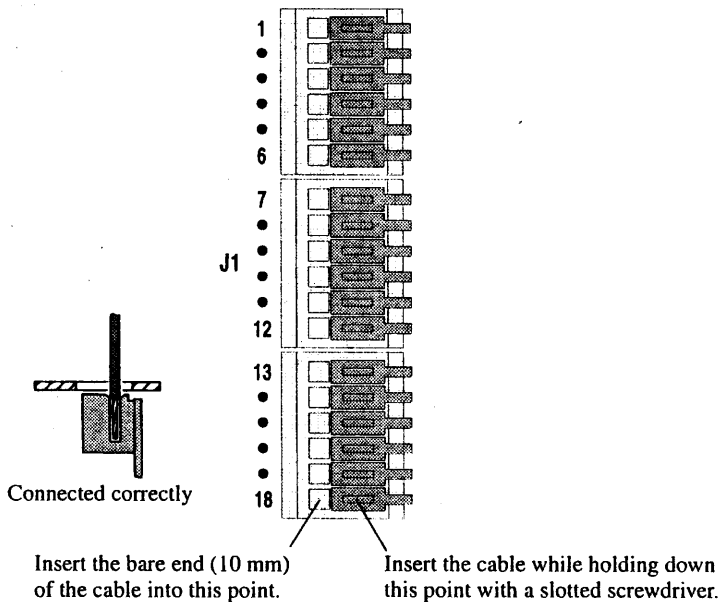

Fig. 4-1 Cable connection to the J1 terminal
3. As illustrated in Fig. 4-1, insert the cable end into the control terminal.